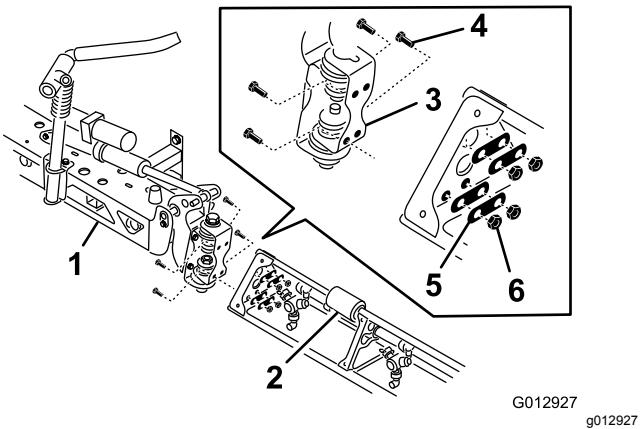

Figure 22
7. Install the extension boom to the center boom at the hinge plate using 4 bolts, 4 washers and 4 nuts removed in step 6 as shown in Figure 22.